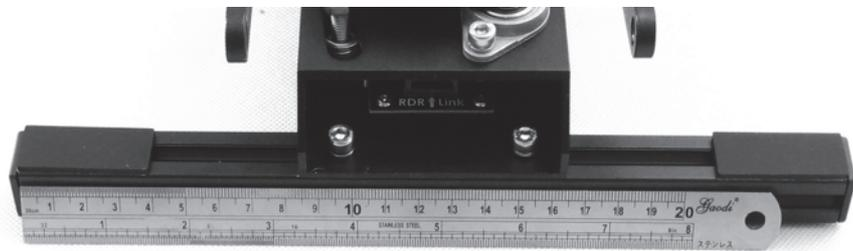

Fig. 2.14.
5.4. Align the leg and the forward case side centers (fig. 2.14)